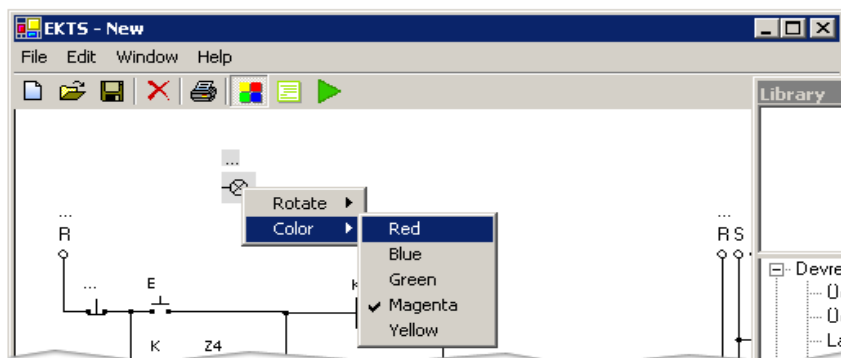

Figure 6 Color menu used to specify color of the lamp.
2. Select color form Color submenu of opened context menu as shown in the Figure 6.